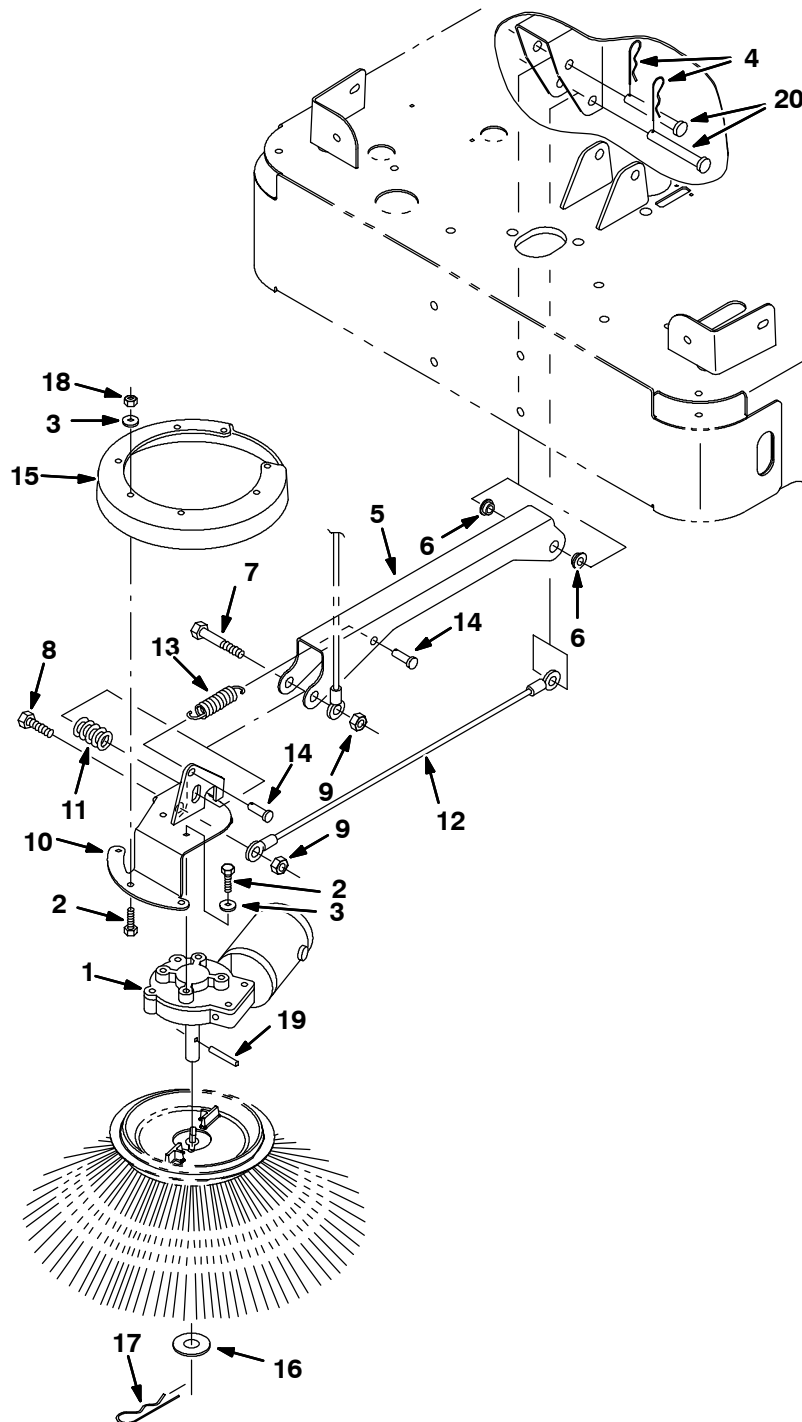
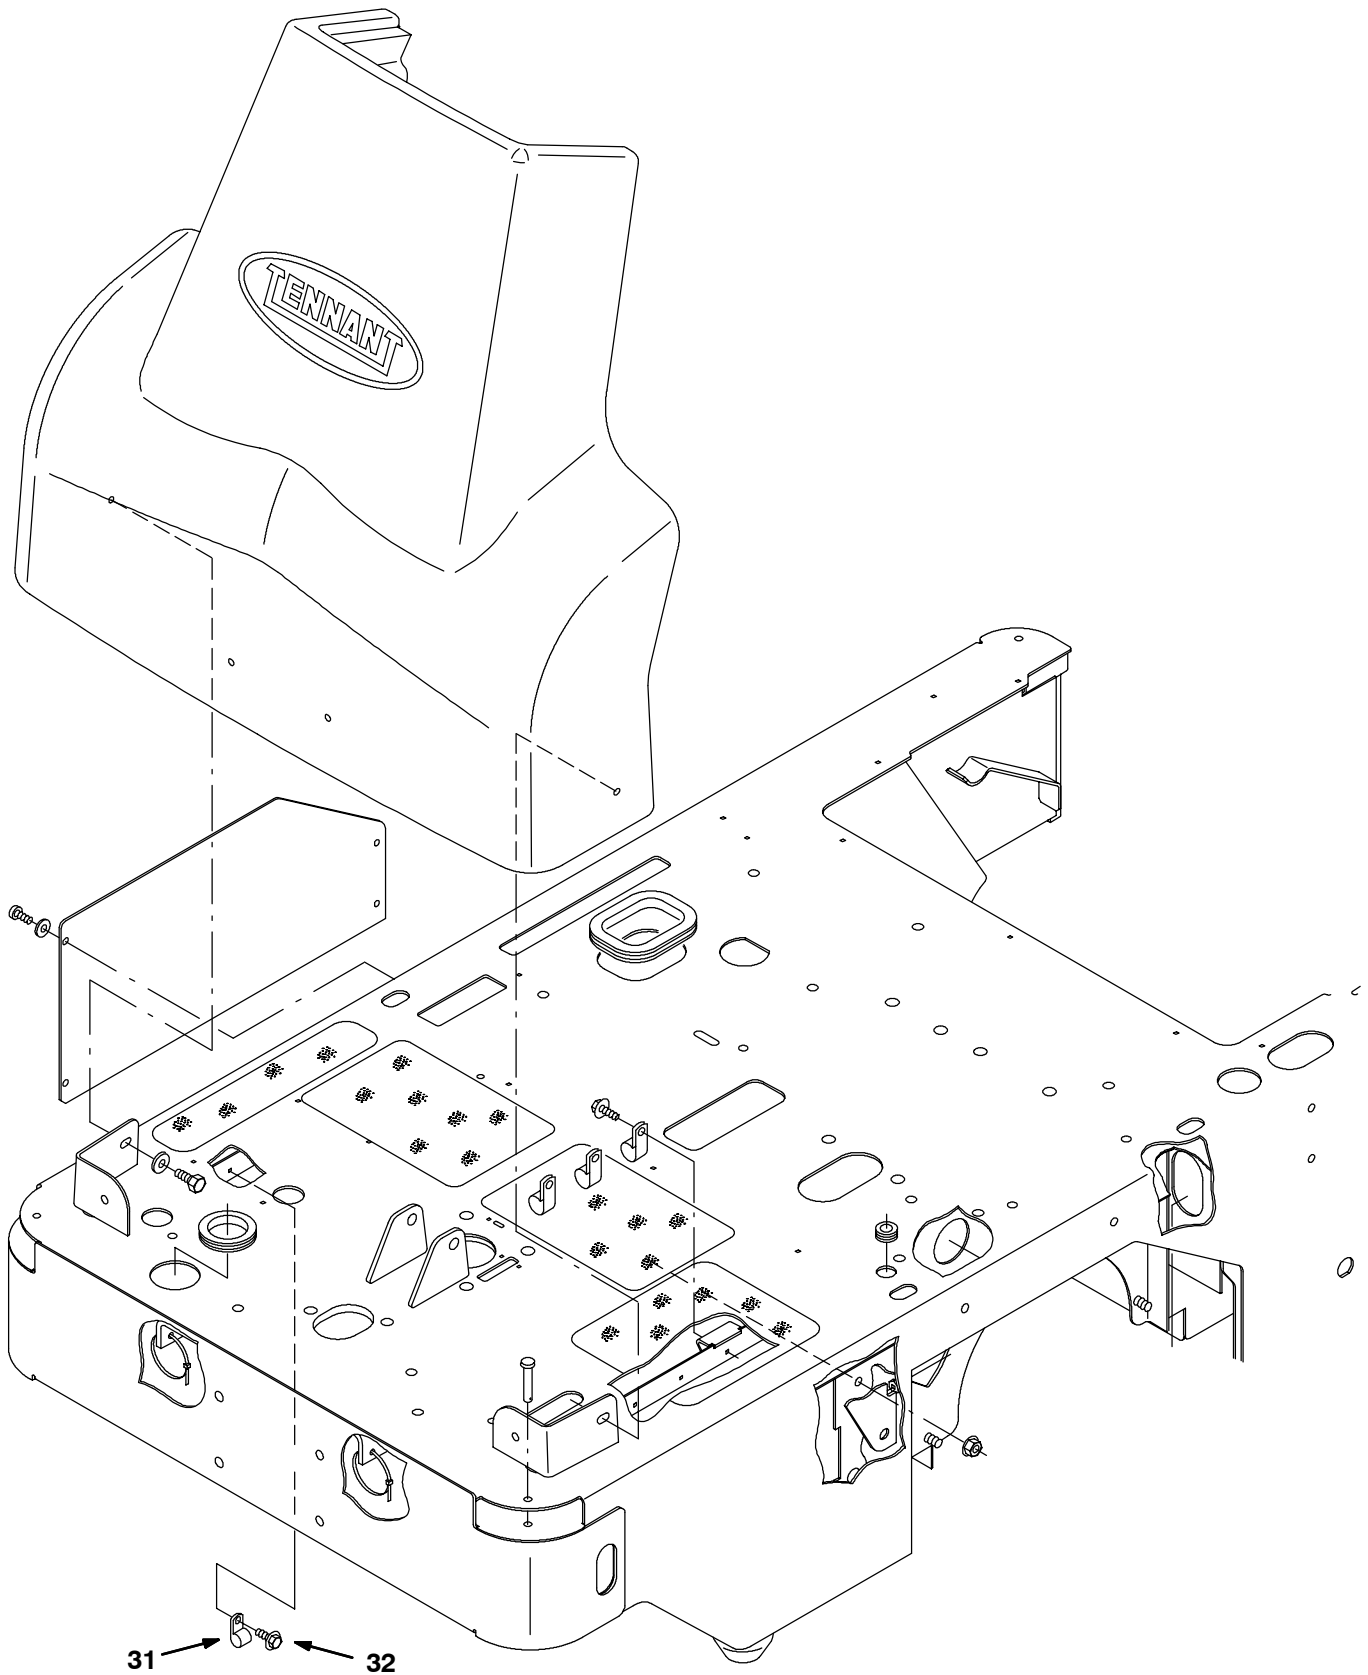

FIG. 1 - SIDE BRUSH MOTOR GROUP INSTALLATION
FIG. 2 - FRONT SHROUD REMOVAL
(Refer to FIG. 1, 2 and 3)
1. Mount the electric motor (1) to the side brush bracket (10) with four hex screws (2) and washers (3). (Refer to FIG. 1)
2. Mount the right hand side brush guard (15) over the side brush bracket (10) with five hex screws (2), washers (3) and lock nuts (18). (Refer to FIG. 1)
3. Press the two flange bearings (6), into the rear end of the side brush mounting channel (5). (Refer to FIG. 1)
4. Connect the front end of the side brush mounting channel (5) and the right hand lift cable (21) to the bracket and motor sub-assembly with the hex screw (7), die spring (11) and lock nut (9). (Refer to FIG. 1 and 3)
NOTE: Check that the lift cable (21) is mounted on the left (nut) side of the mounting channel (5) and the die spring (11) is on the right side of the bracket (10) when mounted in the channel (5) (Refer to FIG. 1)
5. Connect the side brush cable (12) to the back side of the side brush bracket (10) with hex screw (8) and lock nut (9). Tighten the hex screw (8) and lock nut (9) only hand tight, the side brush cable (12) must be able to move freely. (Refer to FIG. 1)
6. Place one clevis pin (14) in the side brush channel (5) and the second in the top of the side brush bracket (10). Connect the two clevis pins (14) with the extension spring (13). (Refer to FIG. 1)
7. Install the right hand side brush assembly in the machine. Mount the side brush channel (5) to the frame with one clevis pin (20) and cotter pin (4) and mount the side brush cable (12) to the frame with the other clevis pin (20) and cotter pin (4). (Refer to FIG. 1)
8. Secure the side brush wiring harness back along the side brush cable (12) with wire ties.
9. On IC machines only: Secure the main harness with the cable clamp (31) and hex screw (32). (Refer to FIG. 2)
8. Check that the pin (19) is secure in the brush drive shaft. (Refer to FIG. 1)
9. Mount the side brush sweeping head to the motor with a flat washer (16) and cotter pin (17). (Refer to FIG. 1)